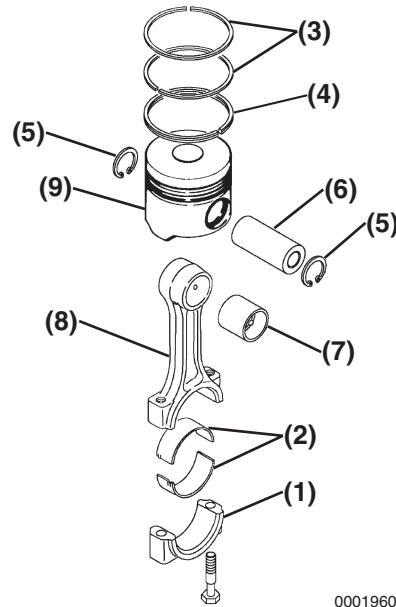

Figure 6-100
- 5. Remove the bearing inserts (**Figure 6-100, (2)**).
- 6. Remove the compression rings (**Figure 6-100, (3)**) from the piston using a piston ring expander.
- 7. Remove the oil ring (**Figure 6-100, (4)**) from the piston using a piston ring expander.
- 8. Remove the circlips (**Figure 6-100, (5)**) from the wrist pin.
- 9. Remove the wrist pin (**Figure 6-100, (6)**) and connecting rod (**Figure 6-100, (8)**) from the piston (**Figure 6-100, (9)**).